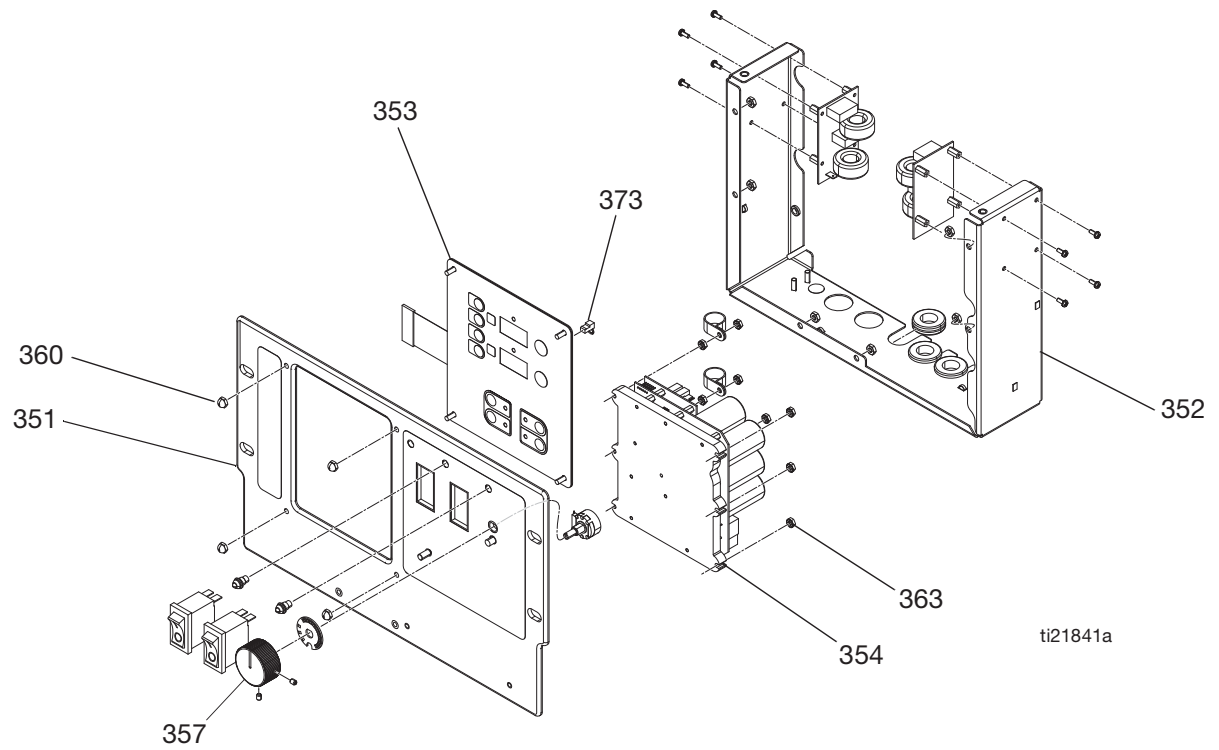

FIG. 10 Control Panel
4. Disconnect the main display cable (81) from the upper right corner of the temperature display (353). See FIG. 10, page 43.
5. Remove the jumper (373) from the back of the display (353). Set aside and install the jumper on the new display.
6. Disconnect the ribbon cable(s) (R) from the back of the display; see FIG. 10, page 43.
7. Remove the nuts (360) from the plate (351).
8. Disassemble the display (353), see detail in FIG. 10, page 43.
9. Reassemble in reverse order, see FIG. 10, page 43. Apply medium strength thread sealant where shown.
2. Remove the display cover (26) on back of the cart to expose the control board (354).
3. Disconnect all cables and connectors from the board (354). See Table 8, page 45.
4. Remove the six nuts (363) and remove the board from the control board (354). See FIG. 10, page 43.